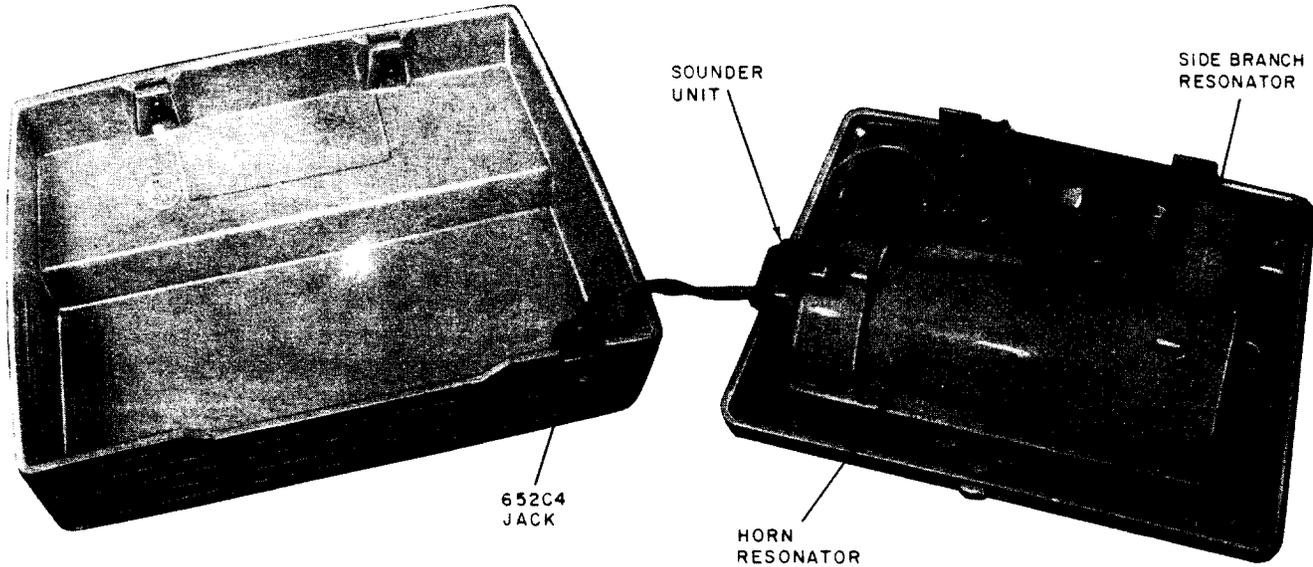

Fig. 3—S1AM Tone Ringer, Cover Removed
- 3.05 To remove the louvered cover from either tone ringer, release the two captive screws which fasten cover to the base (Fig. 3).